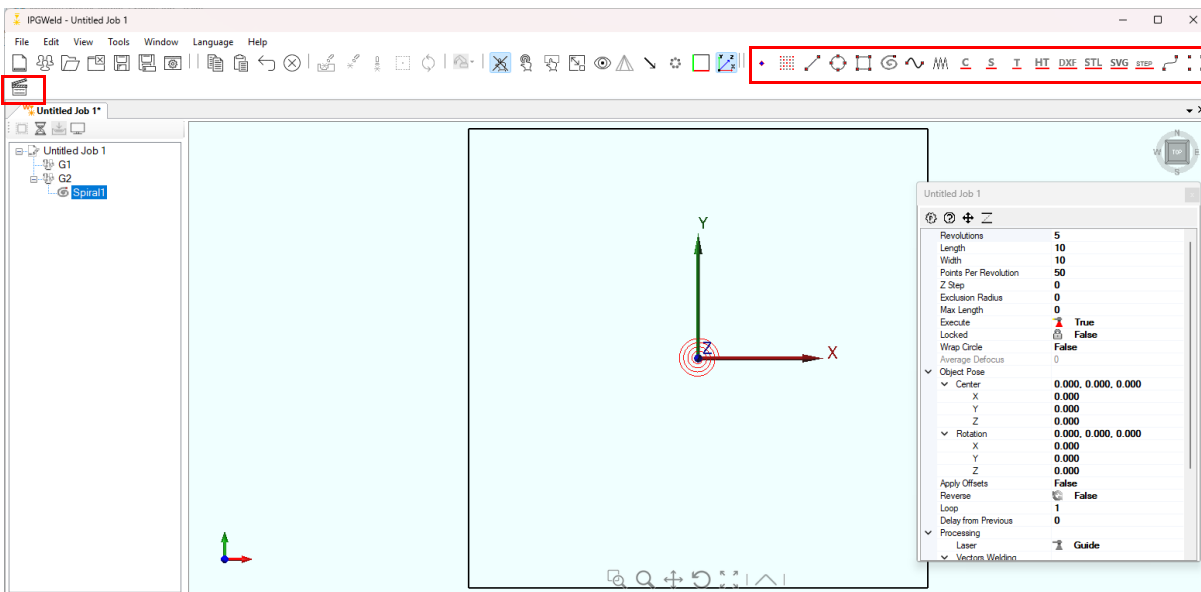

Figure 25: Adding Process Objects and Action Controls to Groups
3. To add a Process Object or Action Control to a particular Group, simply select the desired Group in the Job Tree and click on the desired Process Object icon or Action Control icon in the Tool Bar. See Figure 25.